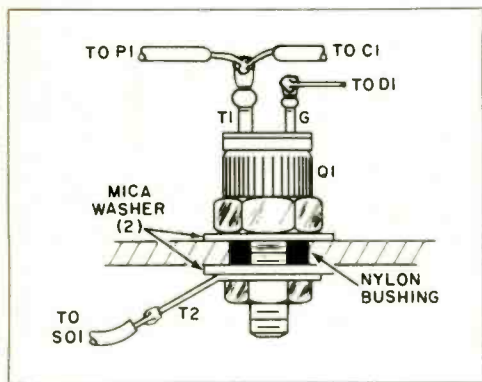

Fig. 3. Silicone grease, two mica washers, and a nylon bushing are used to mount Triac on heat sink to get thermal conduction without electrical contact.
**Construction.** The Triac should be mounted on an aluminum heat sink. A  $\frac{1}{8}$ "-thick piece of aluminum will do the trick. Bend it in a vise or small brake and then drill the holes. Use insulated mounting hardware and silicone grease to mount the Triac, as shown in Fig. 3. The Triac *must* be electrically insulated from the heat sink. Test the setup with